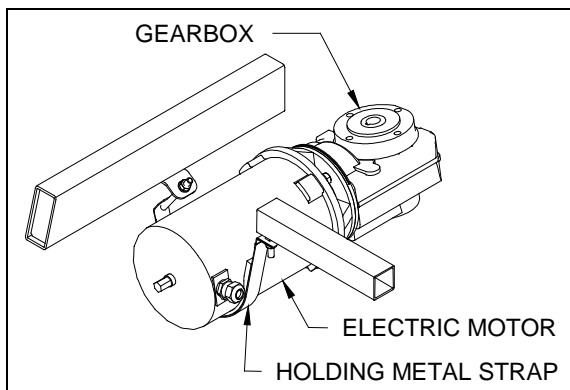

FIGURE 23 : ELECTRIC MOTOR
Inspect the electrical connections and their watertightness. Check that the bolts and the holding metal strap are tight (figure 23).
- Disconnect the electric wire cable from the motor. Release the motor holding metal strap (figure 23).
- Replace and tighten the motor holding metal strap (figure 23).